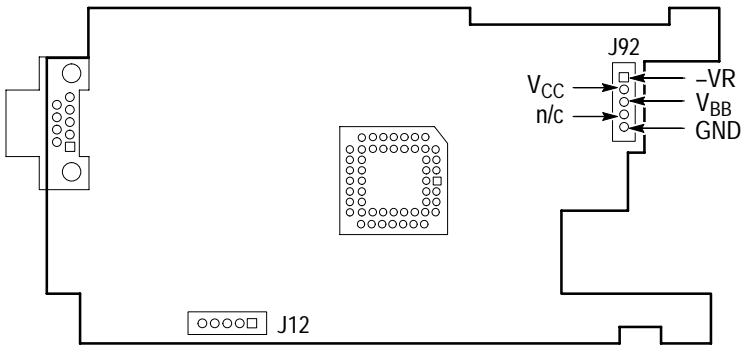

Figure 6–1: Test Point Locations on the A1 Board
7. Connect the voltmeter to the V_{BB} test point and ground. Check V_{BB} for a voltage of +7.2 V or higher. Refer to Figure 6–1 for test point locations.